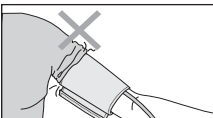

Fig.12
7. If the rolled-up sleeve squeezes the arm interfering with free blood flow the Device may give inaccurate figures not corresponding to your actual blood pressure (fig. 12).